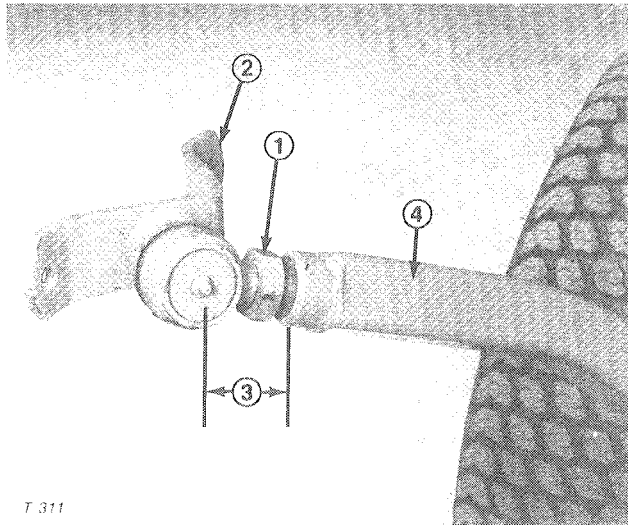
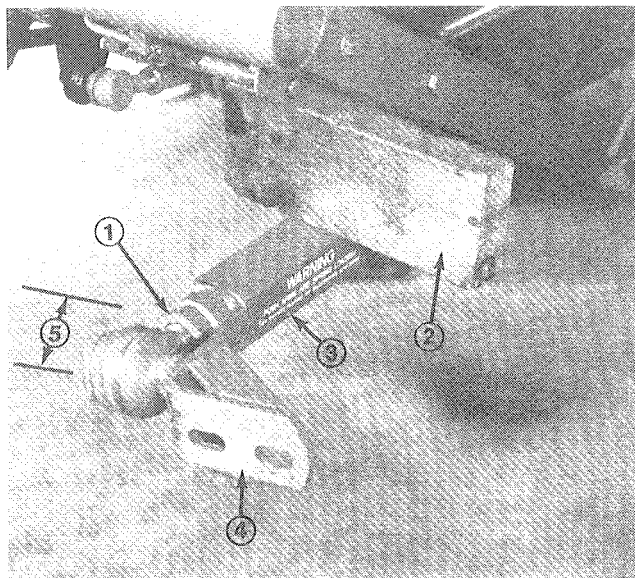

Figure 12
Figure 13
2. Screw ball joint into right hand push arm until center of ball joint is 2-3/8 inches (60 mm) away from front of push arm (Fig.12). Do not tighten jam nut.
4. Have a helper push down on the left push arm. Then insert a 2 x 4 in. (51 x 102 mm) block of wood between the frame and top of the push arm (Fig. 12). Screw ball joint into left hand push arm until center of ball joint is 2-3/8 inches (60 mm) away from front of push arm (Fig.13). Do not tighten jam nut.